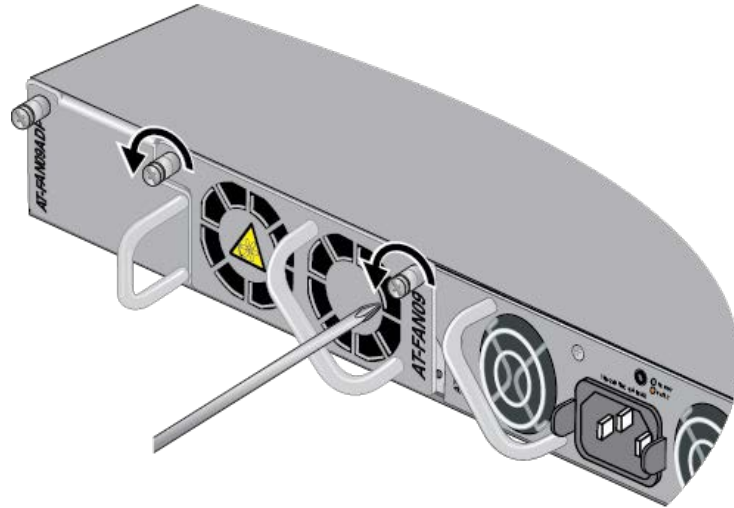

Figure 30. Loosening the Two Captive Screws on the AT-FAN09 Module
3. Loosen the two captive screws on the AT-FAN09 Fan Module with a cross-head screwdriver. Refer to Figure 30.